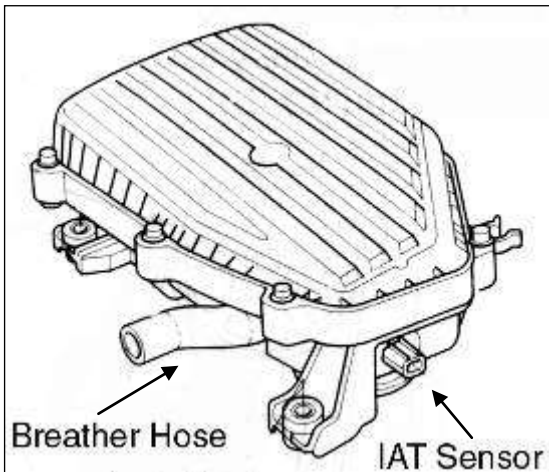

Fig. 1
- a. There is one breather hose and one intake air temperature (IAT) sensor. Refer to the following diagrams for the identification of these components. **(Fig.1)**